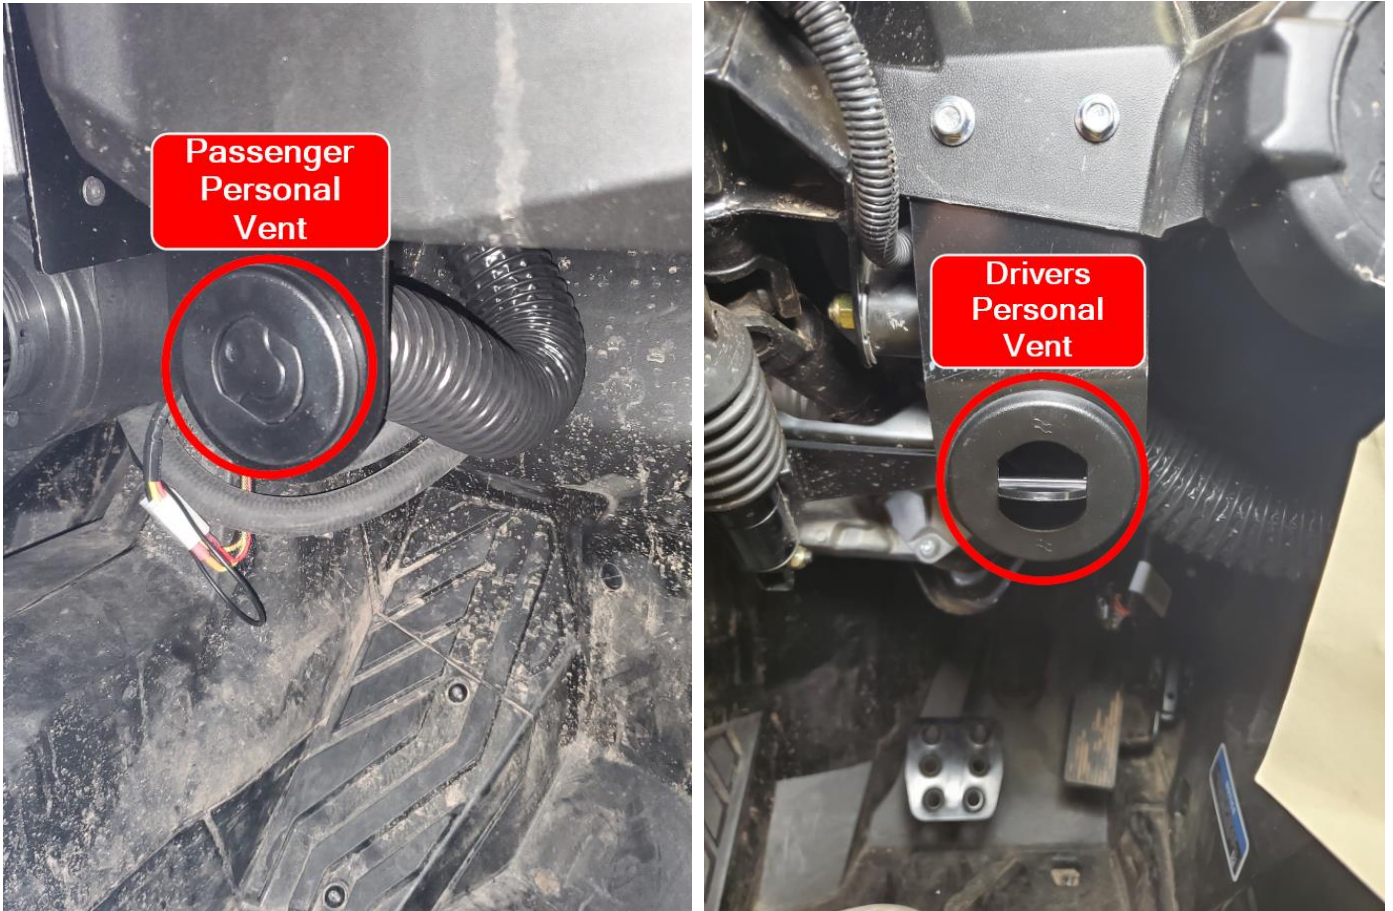

Figure 16
50. Locate the Aluminum Y locations shown in **Figure 16**.